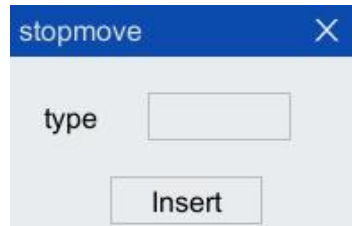

Figure 5-37 "Stopmove" instruction configuration interface
Step1. Click "Insert Cmd> Process Control> stopmove" option in the toolbar of the program editor to pop up "stopmove" instruction interface, as shown in Figure 5-37.